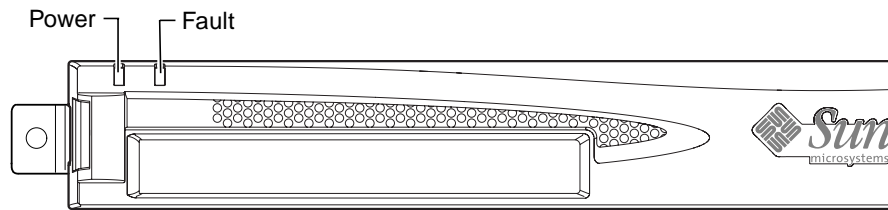

FIGURE 10-7 Front Panel Power and Fault LEDs
- **A Power LED** (see FIGURE 10-7)
- **A Fault LED** (see FIGURE 10-7)